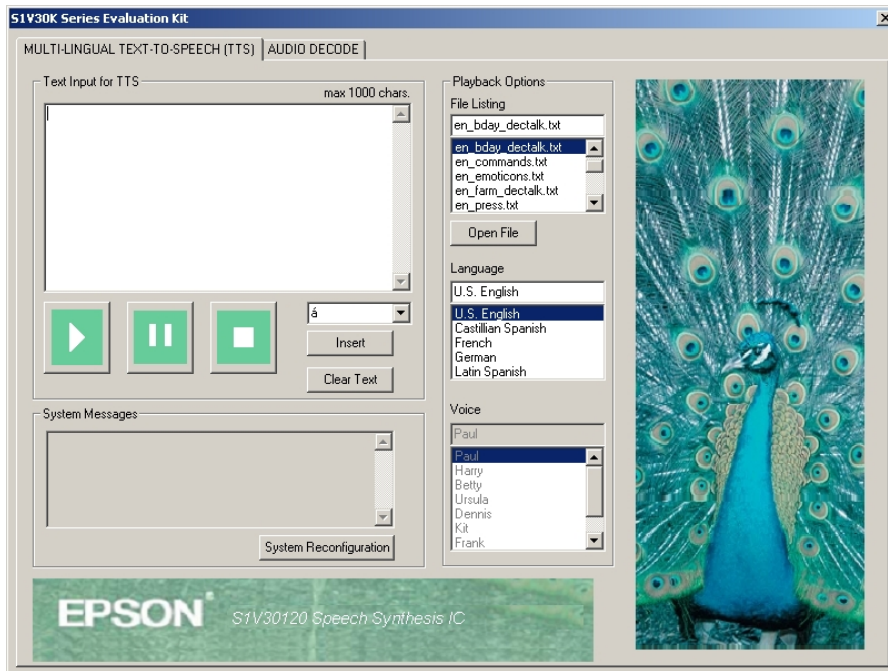

Figure 7 S1V30120 TTS Window
4. Click OK. This will bring the user to the Multilingual Text-to-speech tab for the S1V30120. This tab will be as shown in Figure 7.